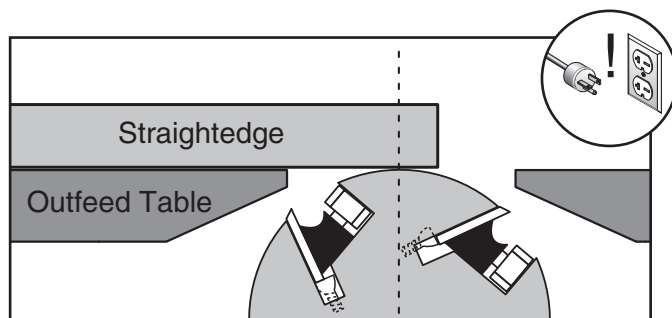

Figure 49. Adjusting outfeed table even with cutterhead body (knife-style cutterhead shown).
1. Place straightedge on outfeed table so it hangs over cutterhead, and lower outfeed table until straightedge just touches cutterhead *body*, as shown in **Figure 49**.